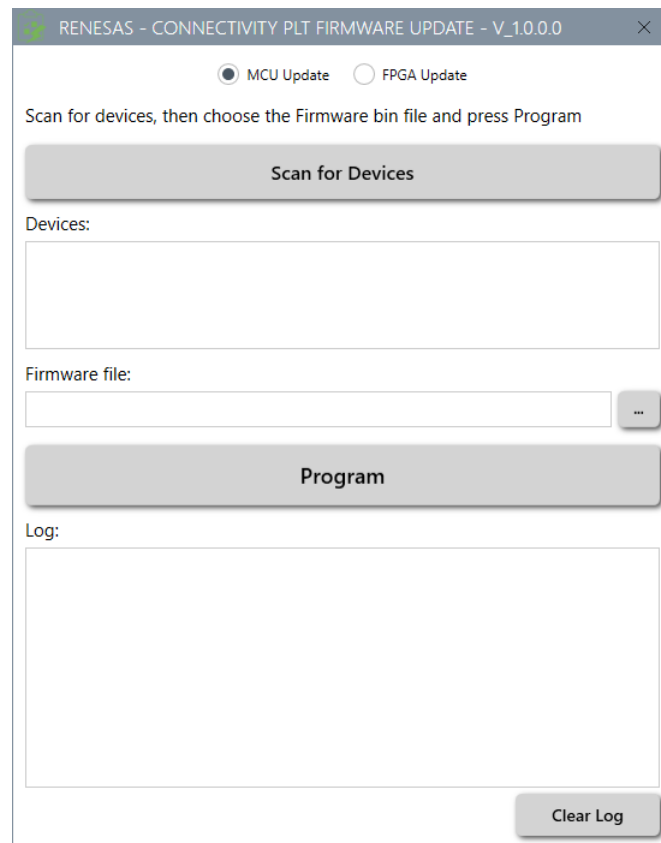

Figure 112. Firmware update application initial screen
1. In the top of **Renesas – Connectivity PLT Firmware Update** window, select **MCU Update**, and then click **Scan for Devices** (Figure 112).